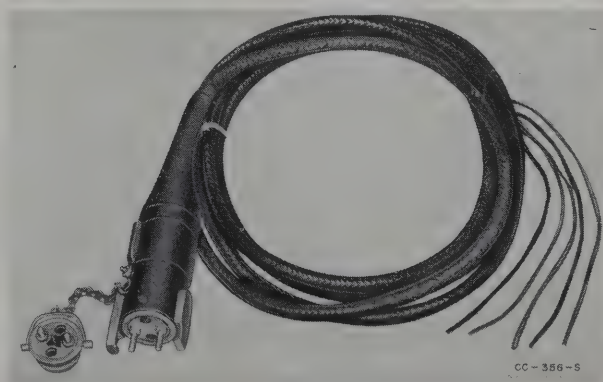

Figure 33. Cable Stub CC-356-S.
k. CABLE STUB CC-356-(*). Cable Stub CC-356-(*) is used to connect the spiral-four cable to a transmitter at the radio terminal station or to a v-f (voice-frequency) carrier bay at the telephone or telegraph terminal. The stub consists of 12 feet of 4-wire, rubber-insulated, rubber-jacketed Cable WC-548 with a coupler at one end (fig. 33). One of the two wire pairs is colored and connects through a loading coil in